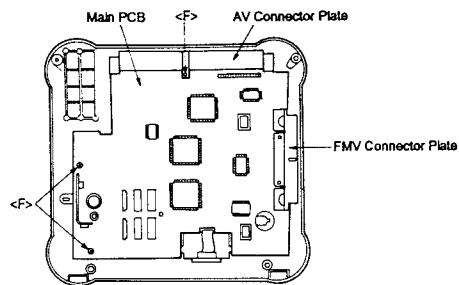
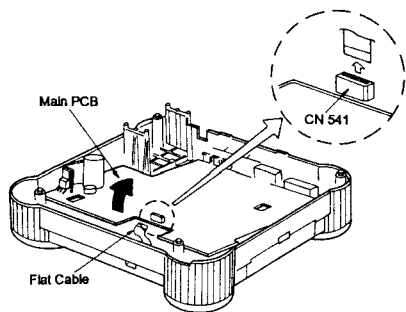

Figure 9
Figure 10
(5) After removing the top case, the CD-ROM drive and the power transformer, remove three screws <F> (2.6 x 8 mm), then remove the AV connector plate and the FMV-conector plate as shown in Figure 9.
(6) Disconnect the flat cable from connector (CN 541).
(7) Gradually raise the front end of the main PCB and remove it from bottom cabinet as shown in Figure 10.